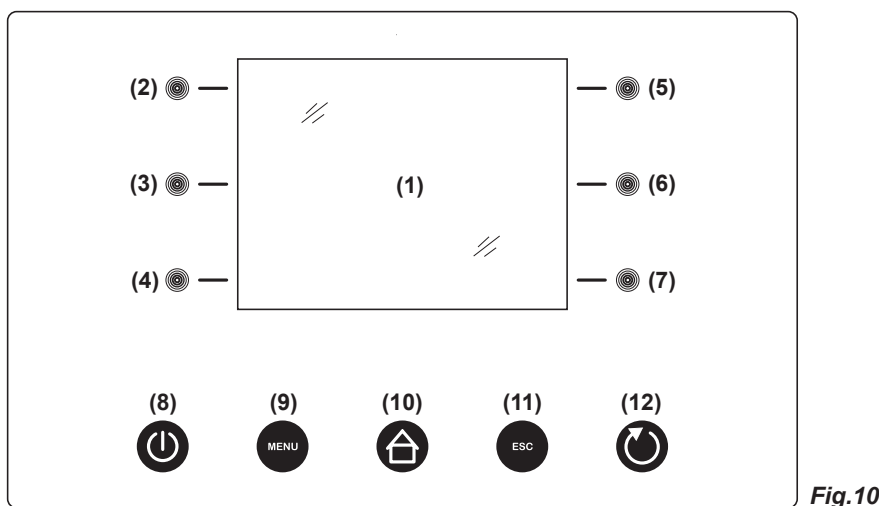
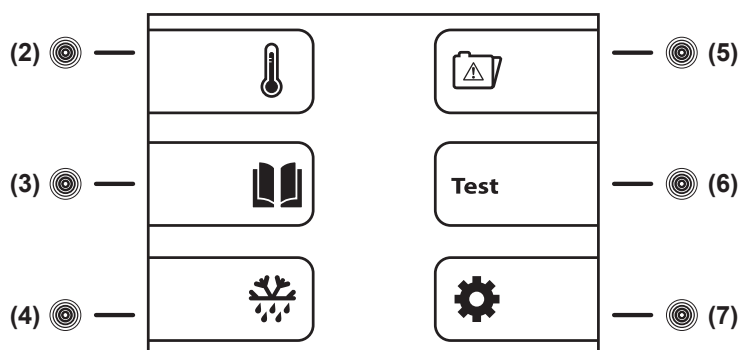
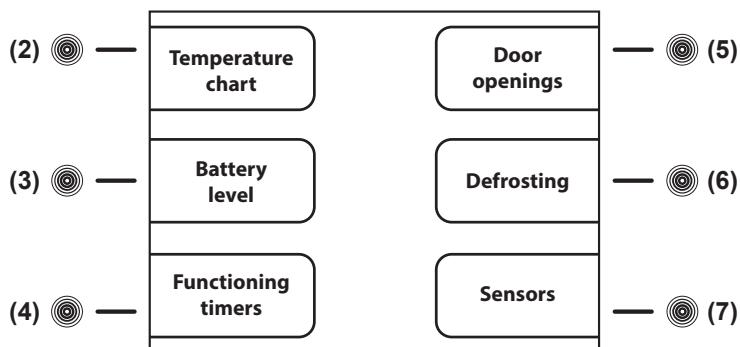

Fig.10
Fig.12
Fig.13
- xPRO control panel (*Fig.10*)
8.1.1 Description of controls and touch-buttons of the xPRO control panel (*Fig.10*)
8.2.2 Sequence and ON/OFF code (Fig.10)
- press the **ON/OFF touch-button (8)** to switch the appliance ON; the display shows the screen-shot to insert the ON/OFF code
- enter the **ON/OFF code 0050** through the **touch-buttons (3) (6) and (4) (7)**
- having inserted the correct code, press the **ENTER touch-button (12)** to confirm, the appliance switch-on and the access to all touch-buttons is enabled
8.2.3 Stopping the unit (Fig.10)
- with control panel on, press the **ON/OFF touch-button (8)** to switch the appliance OFF
- enter the **ON/OFF code 0050 through the touch-buttons (3) (6) and (4) (7)**
- having inserted the correct code, press the **ENTER touch-button (12)** to confirm, the appliance switch-off
8.2.4 Date and time setting (Fig.10)
- press the **MENU touch-button (9)** to access to the main menu (Fig.12)
To access to the Main Menu (Fig.12) press the **MENU touch-button (9)** (Fig.10). (enter the touch-buttons unlocking protection code **0010** if needed)
8.3.1 Setpoint Menu (touch-button (2) Fig.12)
8.3.2 Datas Menu (touch-button (3) Fig.12)
From the main menu screen-shot (Fig.12), press the **touch-button (3)** to access to the Datas Menu. The Datas Menu appears as follow (Fig.13)
8.3.2.1 Temperature chart (touch-button (2) Fig.13)
- press the **touch-button (2)Y+** and the **touch-button (4)Y-**, the chart moves on the vertical ordinate axis, the temperature range, granting a wider view of the temperatures
- press the **touch-button (5)X+** and the **touch-button (7)X-**, the chart moves on the horizontal x-axis, allowing a more detailed monitoring of the chart trend in the time (till 600 minutes) and then in hours (till 46 hours)
- press the **touch-button (3)IN** and the **touch-button (6)OUT**, the chart zoom in and out for a enlarged or dwarfed view of the chart in its totality
- press the **ESC touch-button (11)** to return back to the previous menu or **HOME touch-button (10)** to return back to the main screen-shot
8.3.2.2 Battery level (touch-button (3) Fig.13)
- from the datas menu, press the **touch-button (3)** to access to the BATTERY LEVEL screen-shot
8.3.2.3 Functioning timers (touch-button (4) Fig.13)
8.3.2.4 Door openings (touch-button (5) Fig.13)
- from the datas menu, press the **touch-button (5)** to access to the DOOR OPENINGS menu
- press the **touch-button (5)↑** and the **touch-button (7)↓** to scroll the daily reports of the door openings
8.3.2.5 Defrosting (touch-button (6) Fig.13)
- from the datas menu, press the **touch-button (6)** to access to the DEFROSTING menu
- press the **touch-button (5)↑** and the **touch-button (7)↓**, to scroll the various defrost reports